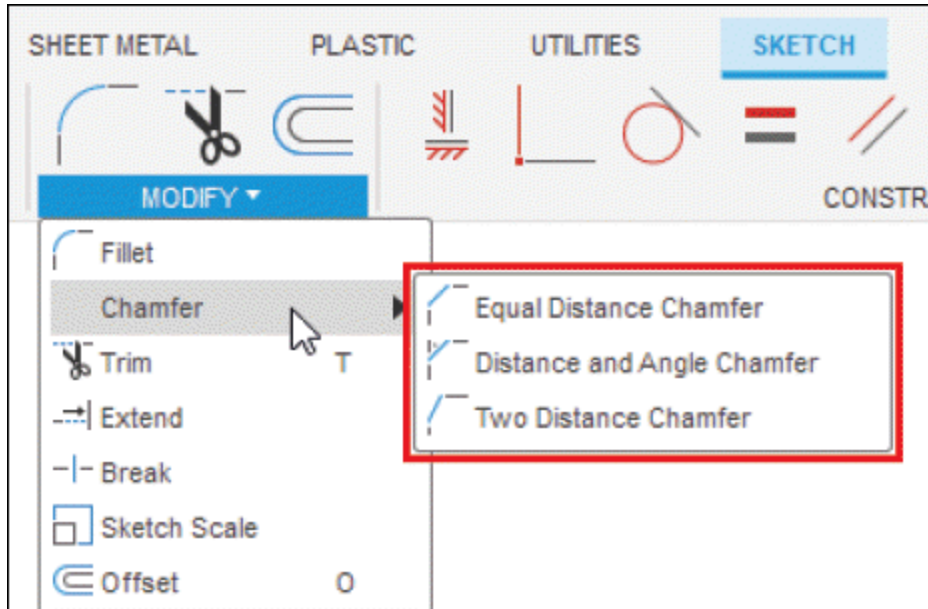

Figure-68. Tools in Chamfer cascading menu
The **Chamfer** tool is used to bevel the corners of sketch geometry in an active sketch. There are three tools in **Chamfer** cascading menu of **MODIFY** drop-down in the **Toolbar**; refer to Figure-68. The procedures to use these tools are discussed next.
- Click on the **Equal Distance Chamfer** tool from **Chamfer** cascading menu; refer to Figure-68.
- Click on the **Distance and Angle Chamfer** tool from **Chamfer** cascading menu; refer to Figure-68.
- Click on the **Two Distance Chamfer** tool from **Chamfer** cascading menu; refer to Figure-68.